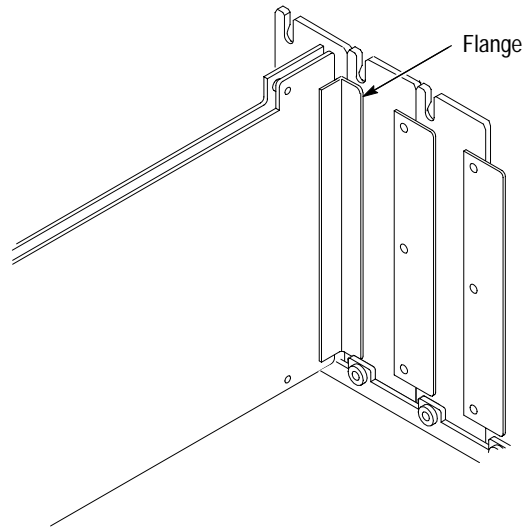

Figure C-7: Module flange alignment
9. Check that the flange on the GPI Interface module is correctly aligned. Figure C-7 shows how a flange is aligned.